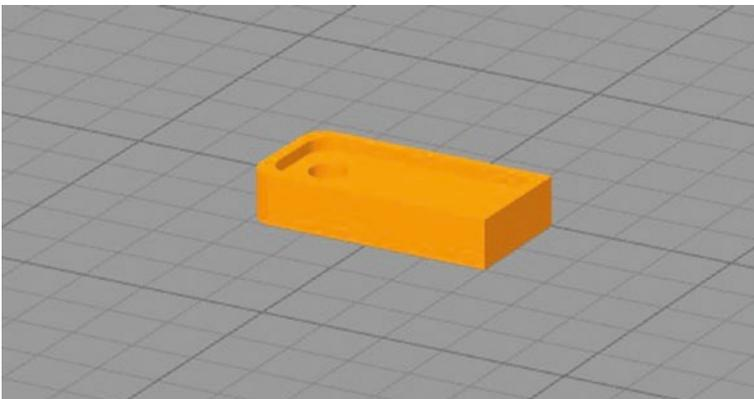

Figure 4-46. Orient the part in this position using the Ctrl-L quick key
7. You will notice that the tag will be put on its side; this is suboptimal since there is an overhang. To fix this, press Ctrl-L and select the bottom of the tag; this will put the bottom of the tag to the top of the build plate which is a much more efficient orientation for this part to be printed in. See Figure 4-46.